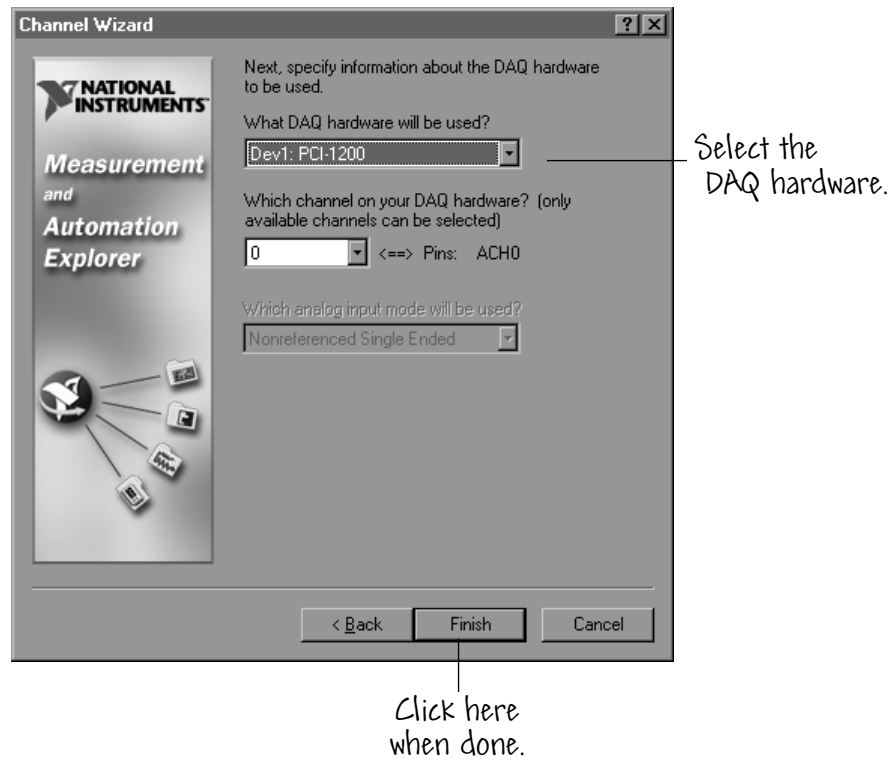

FIGURE 8.45
You should now have arrived at the window that defines the hardware connection for the signal. The settings should match those shown in Figure 8.45, with the exception that the DAQ hardware should reflect the actual hardware that you have in your computer. For example, if you have a Lab-PC+ board, you should select that hardware in place of the PCI-1200 shown in Figure 8.45. You should select channel 0 in item 2 if the temperature sensor is connected to channel 0 of your DAQ board; otherwise select the channel number that you have wired to